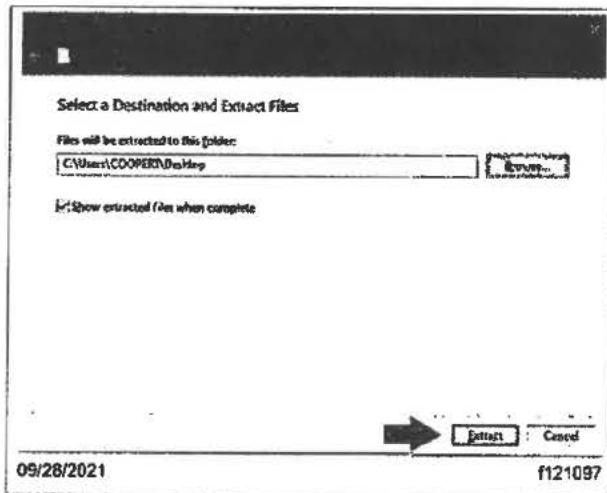
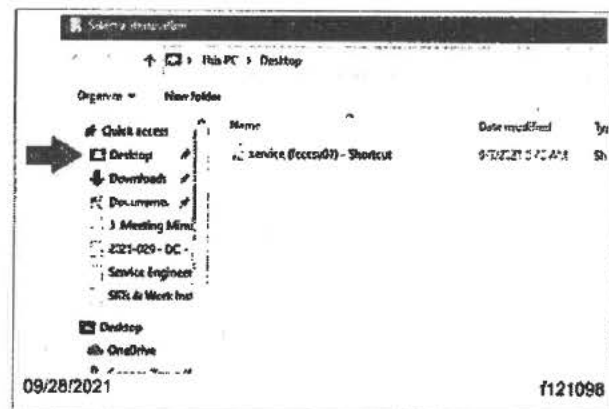

**Fig. 7, Extract Compressed Folders Window**
**Fig. 8, Selecting the Destination for the Extracted Files**
8. In the next screen, make sure the destination for the extracted files is 'Desktop.' If not, select 'Browse,' then select 'Desktop.' Select 'Extract.' See Fig. 7 and Fig. 8.